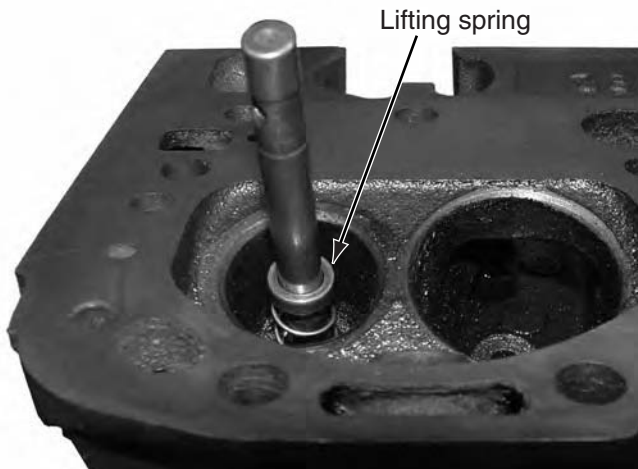

FIGURE 8.85 A lifting spring. (Courtesy of Tim Gilles)
ball bearing stone holders (**Figure 8.84**), which do not wear out the pilot. When using a bushing-type stone holder, lubricate the pilot. Ball bearing stone drivers can also be used with a lifting spring (**Figure 8.85**), which results in a smoother seat finish. A lifting spring cannot be used with a bushing-type stone holder so grab and lift the stone holder away from the valve seat while it is still spinning to obtain a smooth seat finish.
- Each carbide blade is relatively expensive. It is advisable to use a lifting spring, as shown in Figure 8.85, to avoid accidentally chipping the cutter.